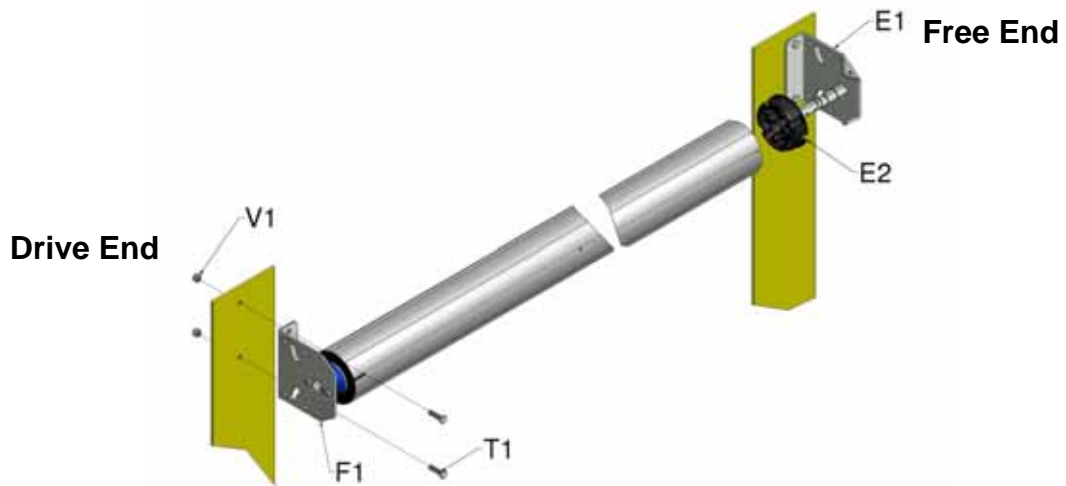

Figure 7a, Mounting Doors up to 5.0m wide to building
6.1. Doors up to 5.0m wide, Figure 7a: